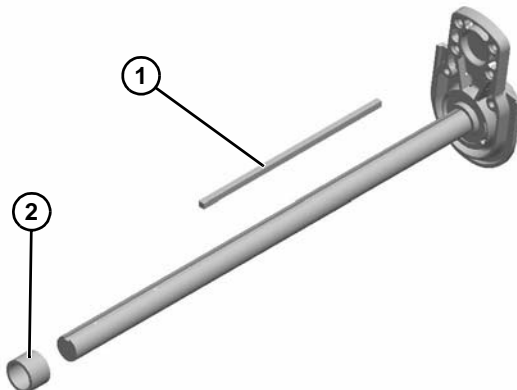

Figure 43
12. Remove drive spindle key (Figure 43, item 1) and tube spacer (Figure 43, item 2).